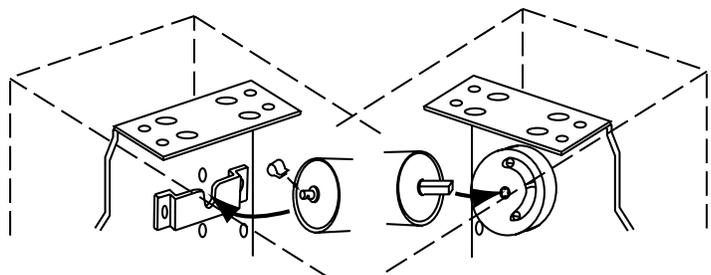

Figure 7
- ① Place operator end of upper roller onto its bracket, then slide notched pin on other end into slot on bracket. Secure with retainer clip (see Fig. 7).